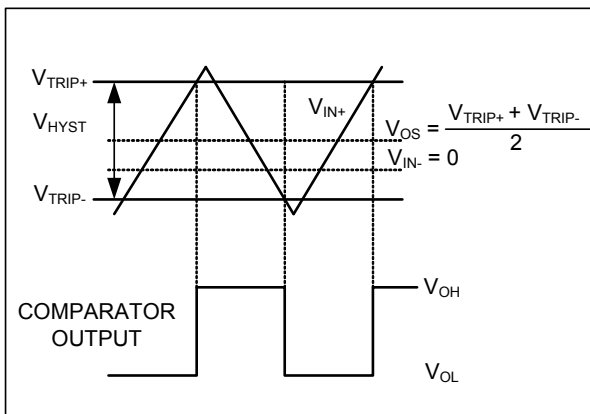

Figure 1. Input and Output Waveform, Non-inverting Input Varied
- VOS is defined as the center of the input-referred hysteresis zone. See Figure 1.
- The input-referred trip points are the extremities of the differential input voltage required to make the comparator output change state. The difference between the upper and lower trip points is equal to the width of the input-referred hysteresis zone. See Figure 1.
The hysteresis in a comparator creates two trip points: one for the rising input voltage and one for the falling input voltage (Figure 1). The difference between the trip points is the hysteresis. The average of the trip points is the offset voltage. When the comparator's input voltages are equal, the hysteresis effectively causes one comparator input voltage to move quickly past the other, thus taking the input out of the region where oscillation occurs. Standard comparators require hysteresis to be added with external resistors. The SGM8748's fixed internal hysteresis eliminates these resistors. To increase hysteresis and noise margin even more, add positive feedback with two resistors as a voltage divider from the output to the non-inverting input.
Figure 1 illustrates the case where IN- is fixed and IN+ is varied. If the inputs were reversed, the figure would look the same, except the output would be inverted.